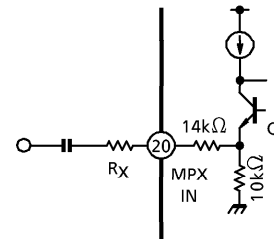

Fig.2 Internal circuit of MPX IN terminal
This IC can attenuate only FM stereo main signal level. Because MPX input for main signal (pin⑳) is independent of that for pilot signal (pin㉑, this terminal is shared with AM input). Internal circuit of MPX IN terminal (pin⑳) is shown in Fig.2. FM stereo main signal level can be attenuated by connecting an external resistor R_X . Because FM stereo main signal level is attenuated by internal resistor ($14k\Omega$ and $10k\Omega$) and resistor R_X . And it is applied to an emitter of transistor Q.